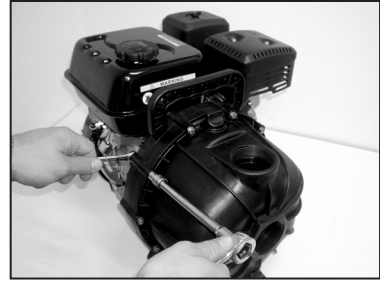

Fig. 1
1. Remove spark plug wire from the spark plug for safety consideration. Remove the 10 bolts and nuts holding the pump casing to the casing cover using a 10mm socket and a 10mm open end wrench. Tap pump casing on the discharge port with a rubber hammer, if necessary, to break it loose from the casing cover. Remove o-ring from casing cover. Inspect parts for wear. (See Figure 1.)